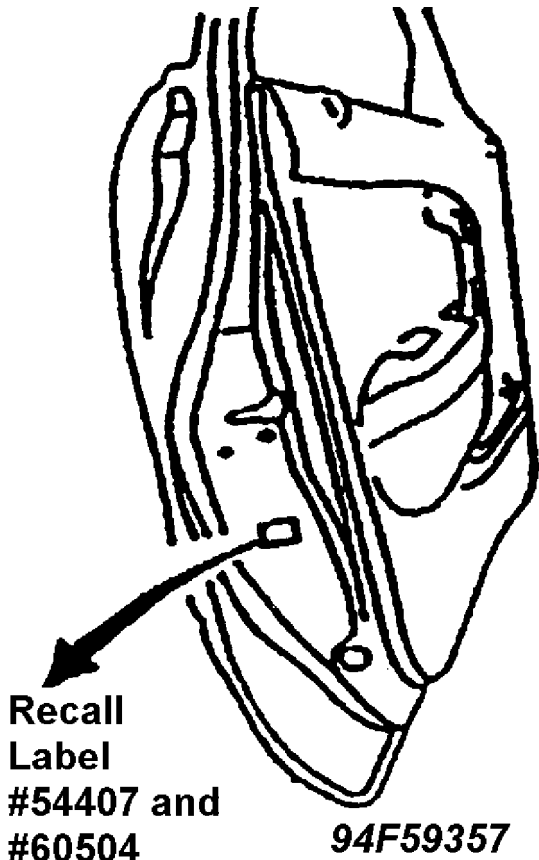

Fig. 74: Recall Label #54407 & #60504 Identification
- 60. Affix the Campaign Label number 54407 and number 60504 onto the driver's side door for future confirmation that the campaign has been completed on this vehicle. See Fig. 74.